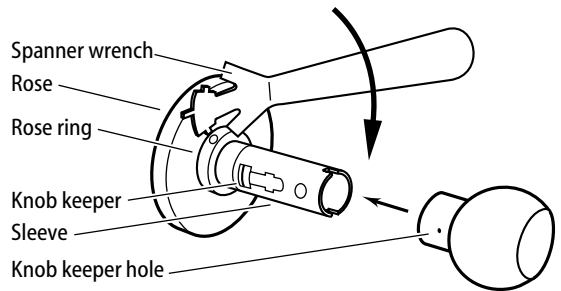

Figure 7 Installing the inside knob and rose
- Align the knob keeper hole with the knob keeper in the sleeve as shown in Figure 7. Firmly push the knob on until seated.